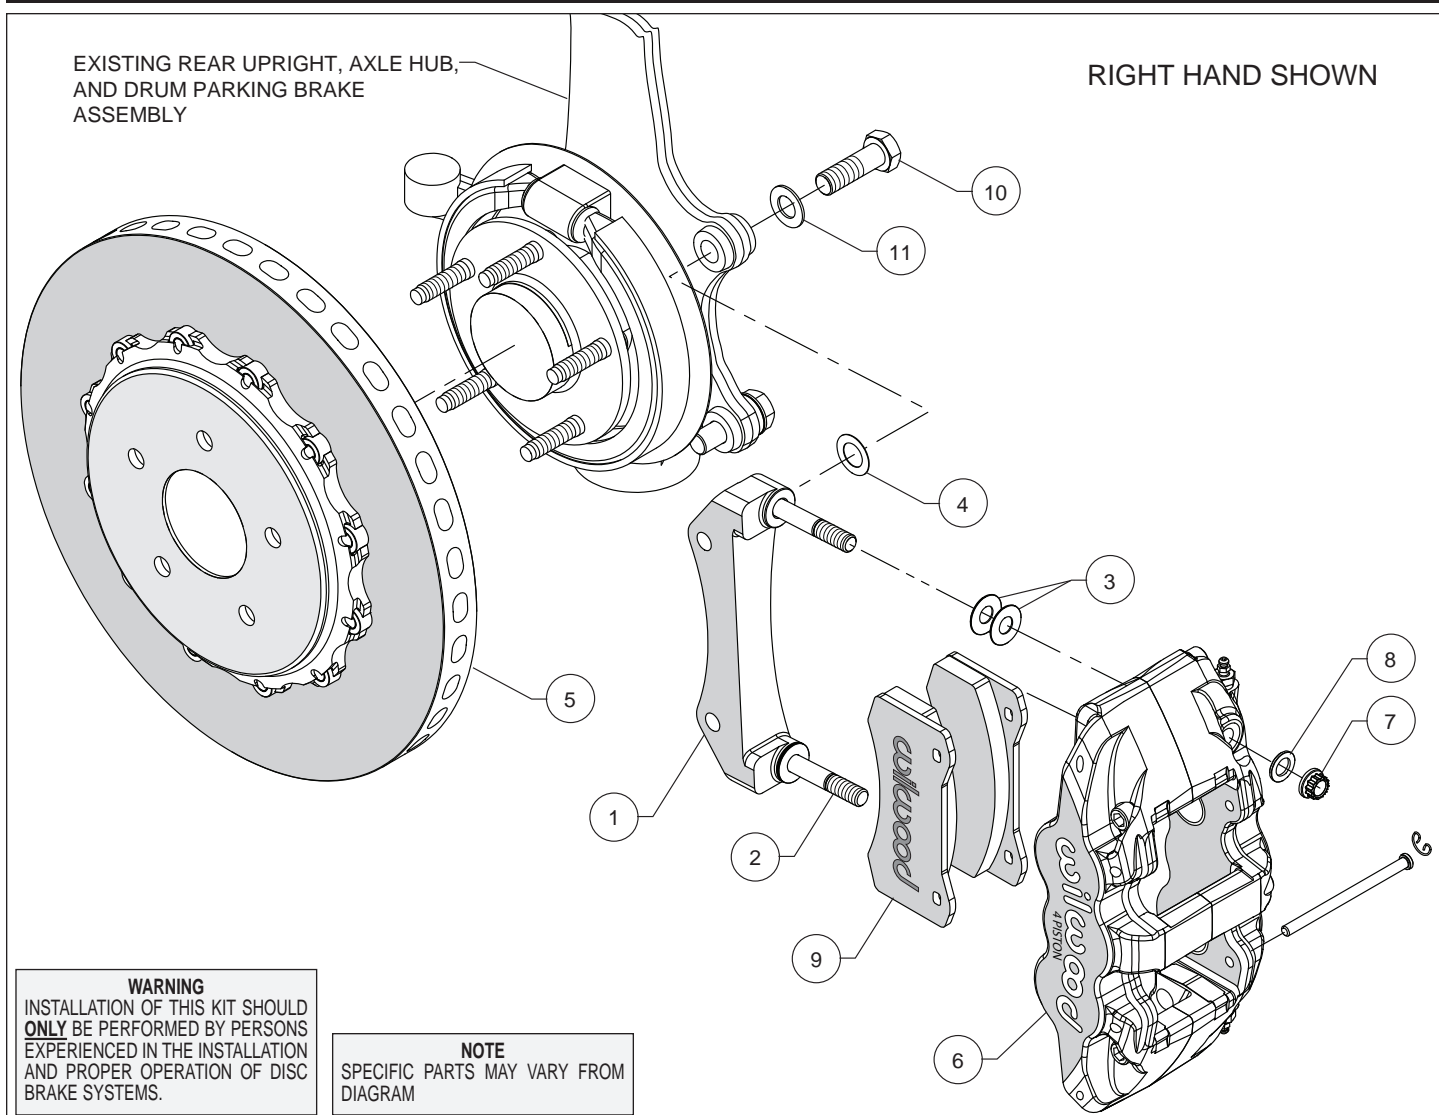

Figure 1. Typical Installation Configuration
**Assembly Instructions** (numbers in parenthesis refer to the parts list and Figure 1 on the preceding pages):
- The caliper mount bracket (1) should initially be installed with clean, dry threads on the mounting bolts. Orient the bracket as shown in Figure 1 and Photo 1, and install using bolts (10) and washers (11). Initially place one .029 thick shim (4) on each bolt between the bracket and upright, Figure 1. Temporarily tighten the mounting bolts. **NOTE:** *The bracket must fit squarely against the mount bosses on the upright.* Inspect for interference from casting irregularities, machining ridges, burrs, etc. Later, after the caliper alignment has been checked, the mount bolts will be secured using red *Loctite*® 271.
- Lubricate the caliper mounting studs (2) with lightweight oil. Initially place two .030" thick shims (3) on each stud between the caliper and the bracket, as shown in Figure 1 and Photo 2. Mount the caliper (6) onto the bracket (1) using lock nuts (7) and washers (8), Figure 1. Temporarily tighten the lock nuts and view the rotor through the top opening of the caliper. The rotor should be centered in the caliper, Photo 3. If not, adjust by adding or subtracting shims (4) between the bracket and the upright. Always use the same amount of shims on each of the two mounting bolts. Once the caliper alignment is correct, remove the bracket mounting bolts one at a time, apply red *Loctite*® 271 to the threads, and torque to 77 ft-lb.
- Remove the two pad retaining pins from the caliper by carefully popping out the pin retaining clips and sliding out the pins. Insert the brake pads (9) into the caliper from the bottom, Figure 1 and Photo 4, with the friction material facing the rotor and secure the brake pads in place with the pad retaining pins and clips, Photo 5. Reinstall the caliper onto the caliper mounting bracket and temporarily tighten the lock nuts. Check that the top of the brake pad is flush with the outside diameter of the rotor, Photo 6. If not, adjust by adding or subtracting shims (3) between the caliper and the bracket. After the caliper pad height is set, torque the caliper lock nuts (7) to 47 ft-lb.